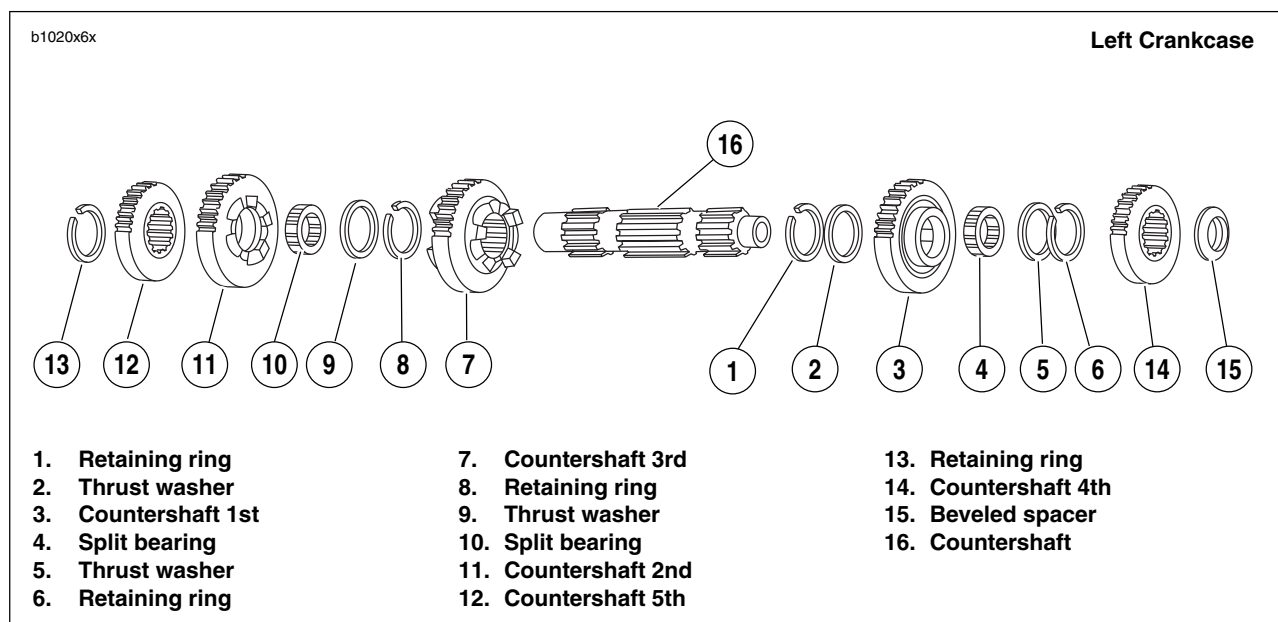

Figure 6-68. Transmission Countershaft Assembly/Reassembly
1. See Figure 6-68. Install **new** retaining ring (1) and thrust washer (2) onto countershaft in the second ring groove from the end with internal threads.
2. Install split bearing (4) onto countershaft.
3. Locate countershaft 1st gear (3), identified by one radial groove at one side, and slide gear onto shaft. Position gear over bearing (4).
4. Install thrust washer (5) and **new** retaining ring (6) next to countershaft 1st gear (3).
5. Install countershaft 3rd gear (7) on countershaft with fork groove facing away from countershaft 1st gear (3).
6. Install **new** retaining ring (8) on countershaft. Position **new** retaining ring in the second ring groove from the end. Install thrust washer (9) next to retaining ring (8). Install split bearing (10) in seat next to washer (9).